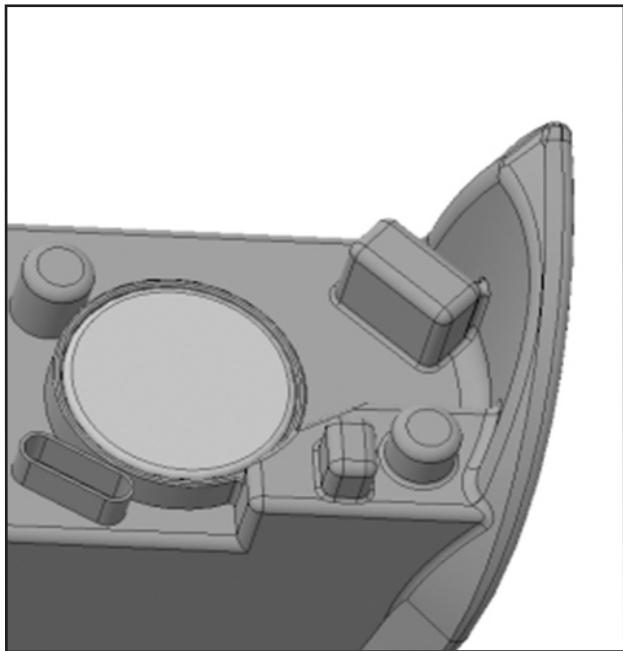

Figure 5
STEP 9. Refit dust cover to rear of light housing (refer figure 5).